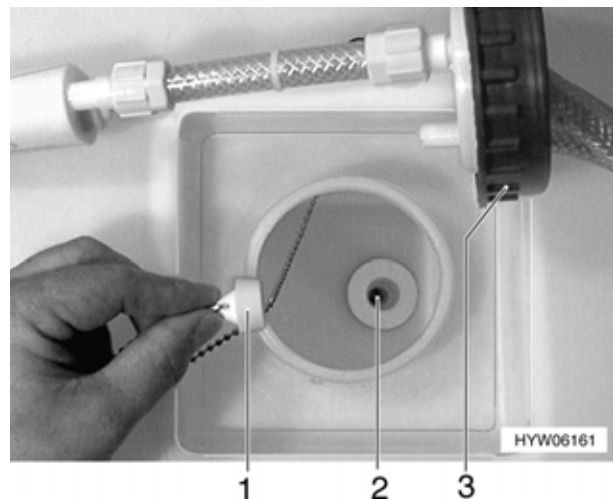

Fig. 145 Fresh water tank, plug (variant 1)
Variant 1 (Fig. 145):
- Close the drainage opening (Fig. 145,2) in the fresh water tank with the stopper (Fig. 145,1) provided.
- Remove the plug (Fig. 145,1).